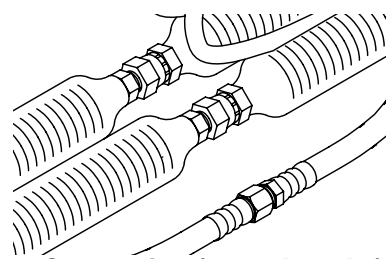

FIG. 10: Hose Connection (steps b and c)
- b. Connect heated hoses to isolation hoses and tighten. To ensure a leak-proof chemical connection, do not cross-thread or over-tighten fittings. See FIG. 10.
- c. Connect air hoses and tighten fittings. See FIG. 10.